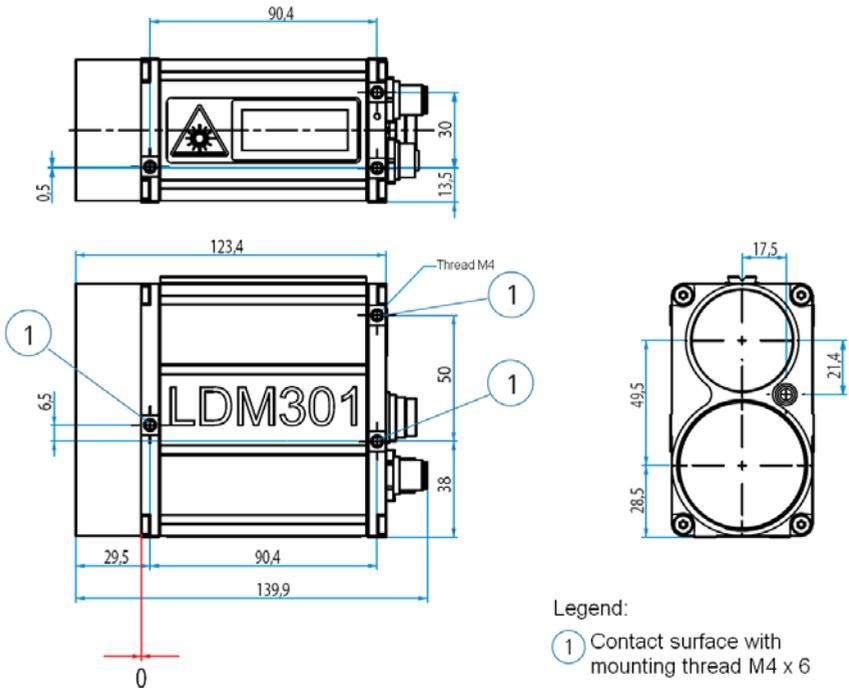
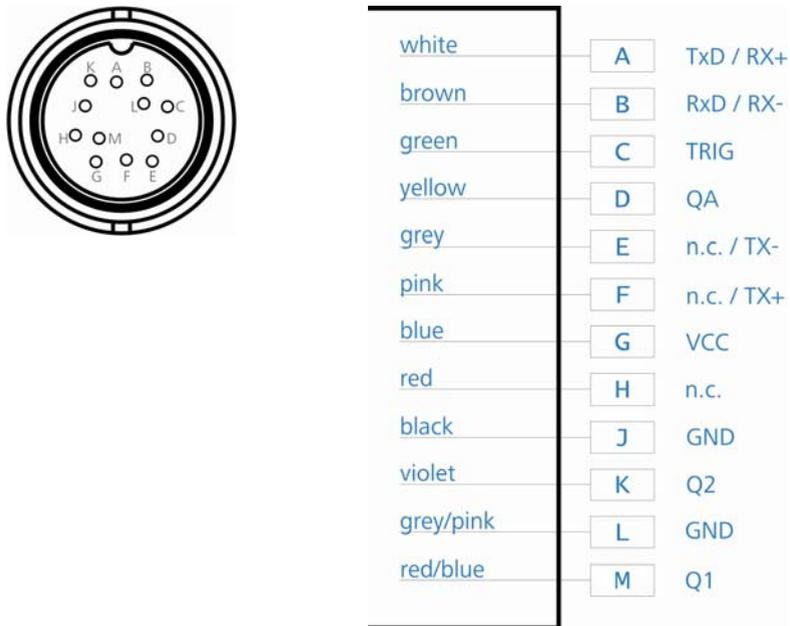

Figure 3 Fitting dimensions LDM 301, zero-point (dimensions in mm)
Figure 4 Terminal diagram of main connector port
The casing consists of a robust, corrosion-resistant extrusion-molded aluminum structure with a front cover plate and a back cover plate equally corrosion-resistant. On each lateral side and on the underside of the LDM 301 casing there are three support pads with mounting holes (M4) for mechanical attachment of the LDM 301 (Figure 3).
1. Attachment to a lateral surface: For attachment to a desired one of the two lateral surfaces, the LDM 301 provides three support pads (Figure 3) with mounting holes (M4 x 6).
2. Attachment to casing bottom: Likewise, the LDM 301 provides three support pads (Figure 3) with mounting holes (M4 x 6) for attachment to the bottom face of its casing
The Pilot Laser (Figure 3, no. 7) is intended to support alignment to a given target point during start-up action of the LDM 301. It qualifies as a Class 2 Laser device and operates at 635 nm (red) in the visible range. The Pilot Laser is not aligned to emit in a direction parallel with the measurement Laser. Instead, its beam intersects with that of the measurement Laser at a distance of 75 m.
For interfacing, the LDM 301 provides different connectors depending on the specification (5.1 Configurations/Options). A main connector port (Figure 3, no. 11) with RS232 or RS422 interface and an additional SSI interface (Figure 4, no. 3) or a Profibus interface (Figure 4, no. 4, 5), depending on the customer's request.